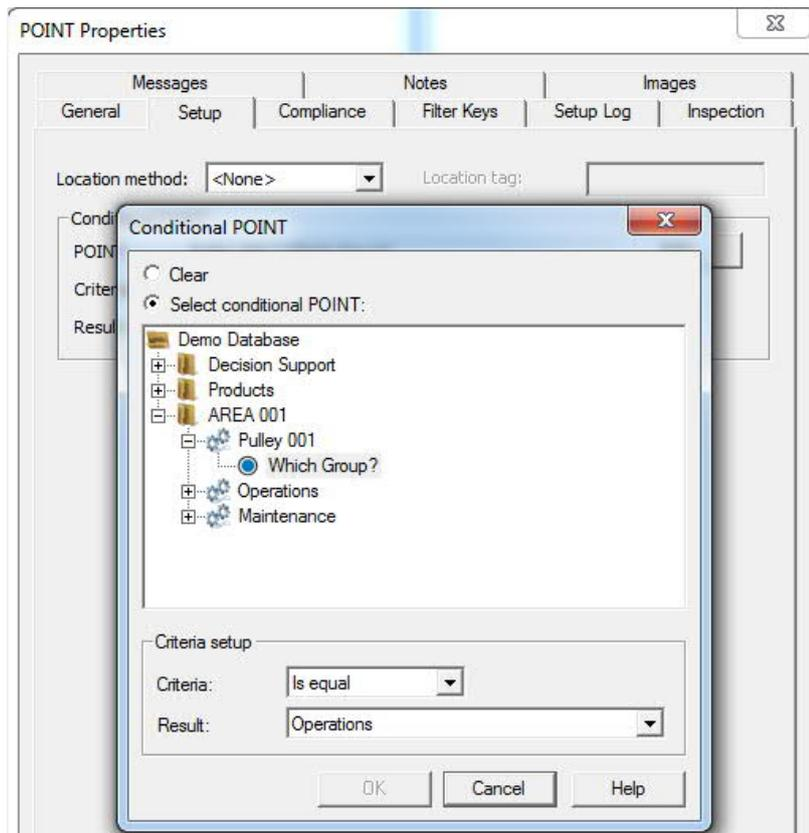

Figure 6. Assigning Conditional POINT
7. In the Setup tab, click the Edit button. Choose the Select conditional POINT radio button and then select the "Which group?" POINT in the hierarchy. Set the Criteria field as "Is equal" and Result field as "Operations". [Figure 6]